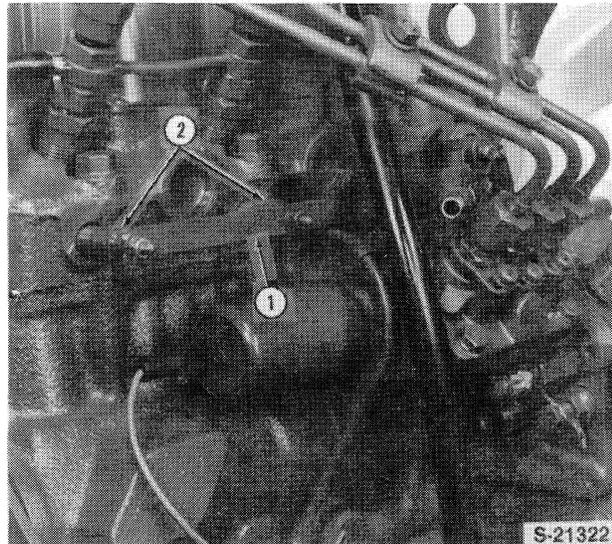

Figure 30
- Disconnect the glow plug connector strap (1) and remove the glow plugs, Figure 30.